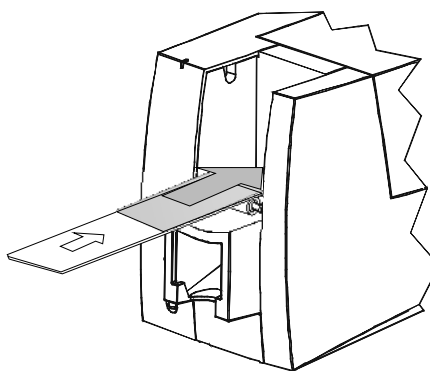

Figure 4-5: Insert the printer cleaning card
- 3 Insert the printer cleaning card on the input rollers, which you can see after removing the card cartridge (see Figure 4-5).